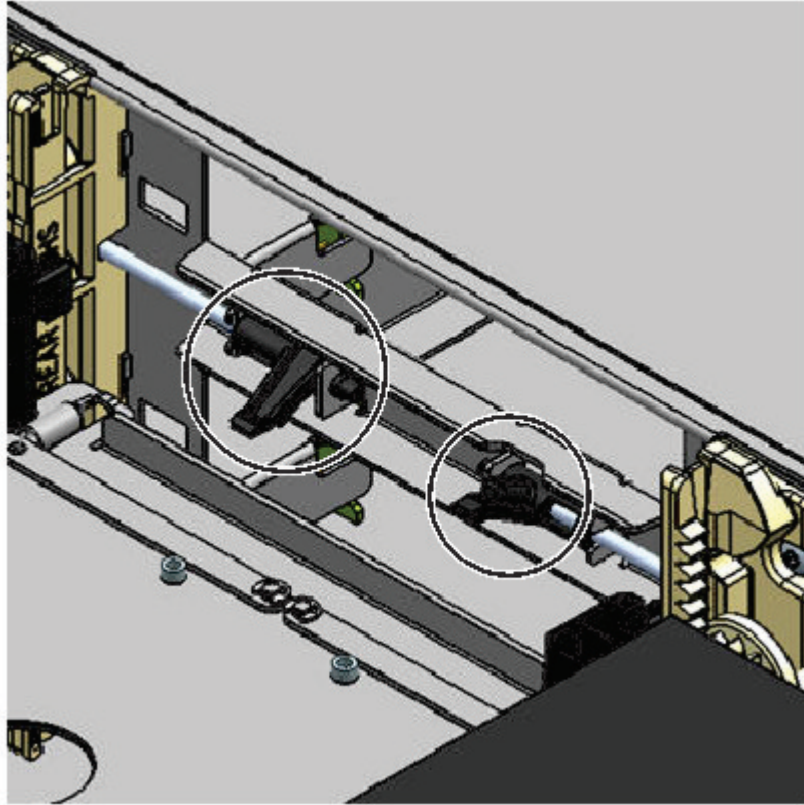

Figure 73. Magazine release levers
1. Remove the left and right magazines by using the magazine release levers (circled in Figure 73 on page 126). Push up on the lever, then pull the magazine out.